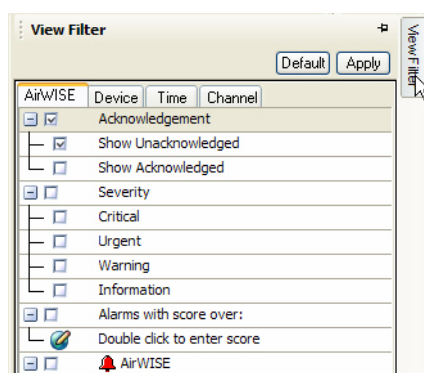

Figure 4-14: Accessing the View Filter Options
- 1) Mouse over or click the View Filter tab in the upper right-hand corner of the screen. The View Filter pane expands onto the left-hand side of the screen. See Figure 4-14.